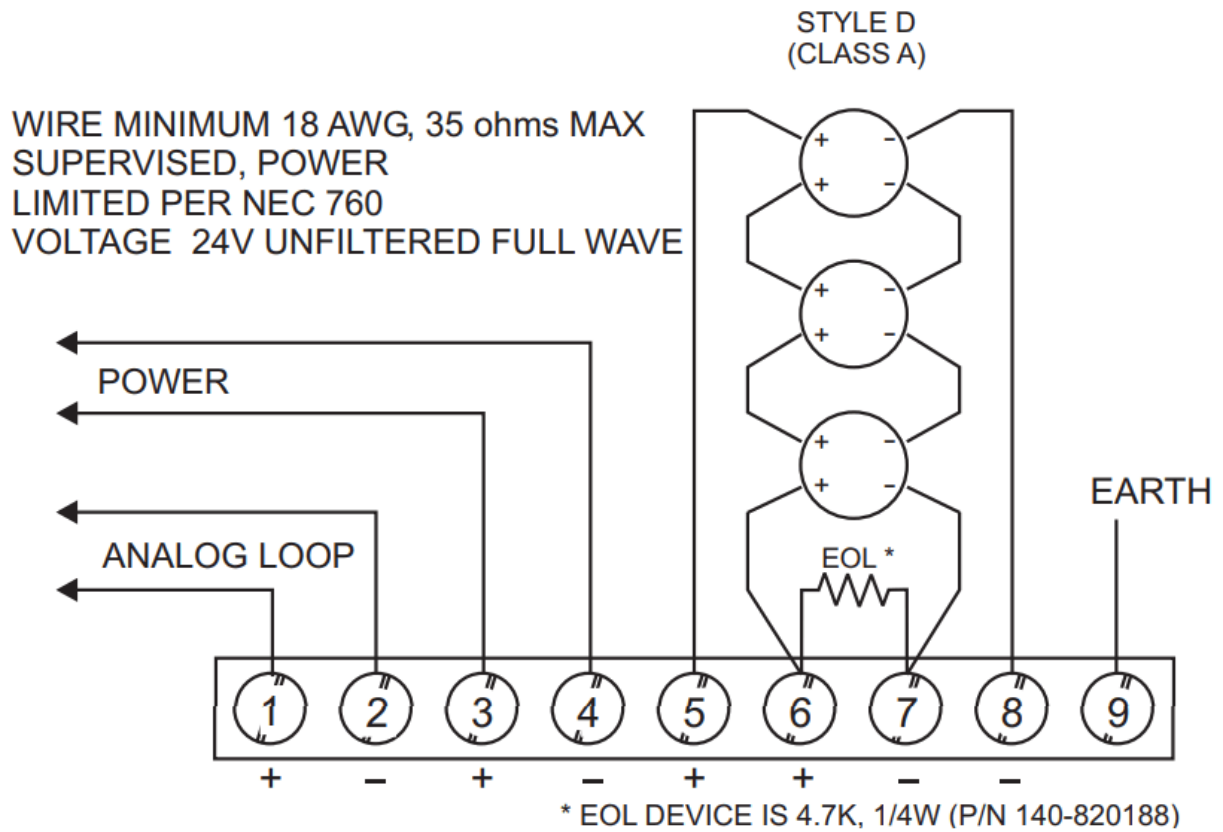
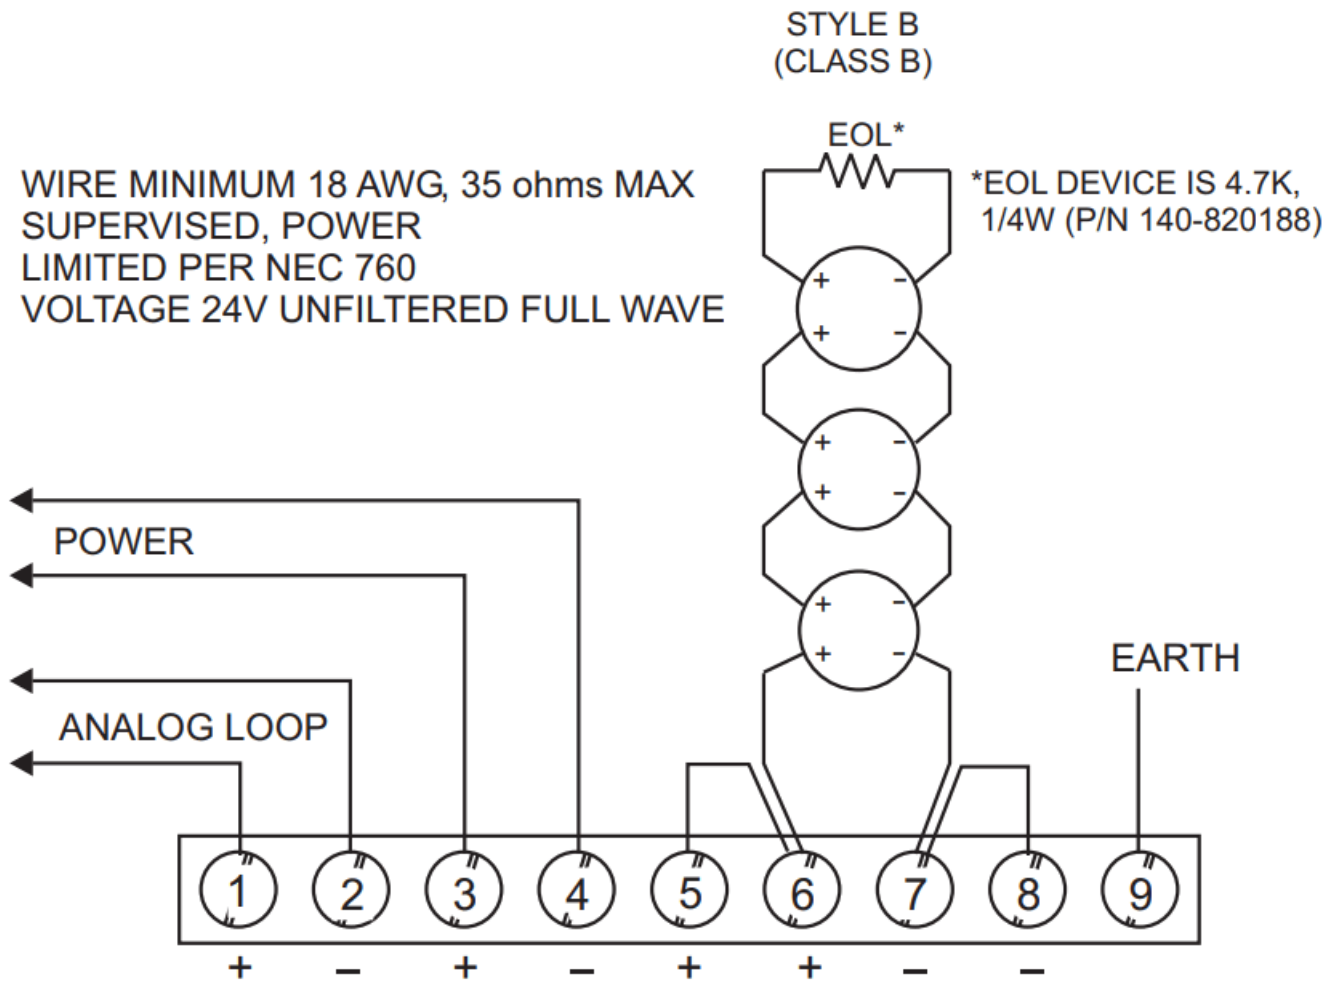

Figure 2 CZM-1B6 Wiring Diagram (Initiating Devices) Class A (Style D) Installation
Figure 3 CZM-1B6 Wiring Diagram (Initiating Devices) Class B (Style B) Installation
1. Initiating Devices (Figures 2, 3, and 4)
The CZM-1B6 supports one zone of initiating devices in either Class A or Class B. The initiating devices are connected to terminals 5–8 on the CZM-1B6 terminal block. Figure 2 shows the Class A wiring. Figure 3 shows the Class B wiring.